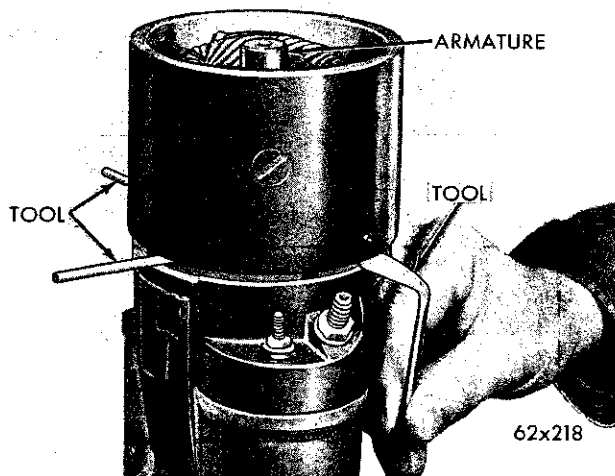

Fig. 26—Removing the Brush Positioning Tools
(24) Remove the brush positioning Tools C-3855 (Fig. 26).
(25) Install the thrust washer (fibre) and washer (steel) on the armature shaft.